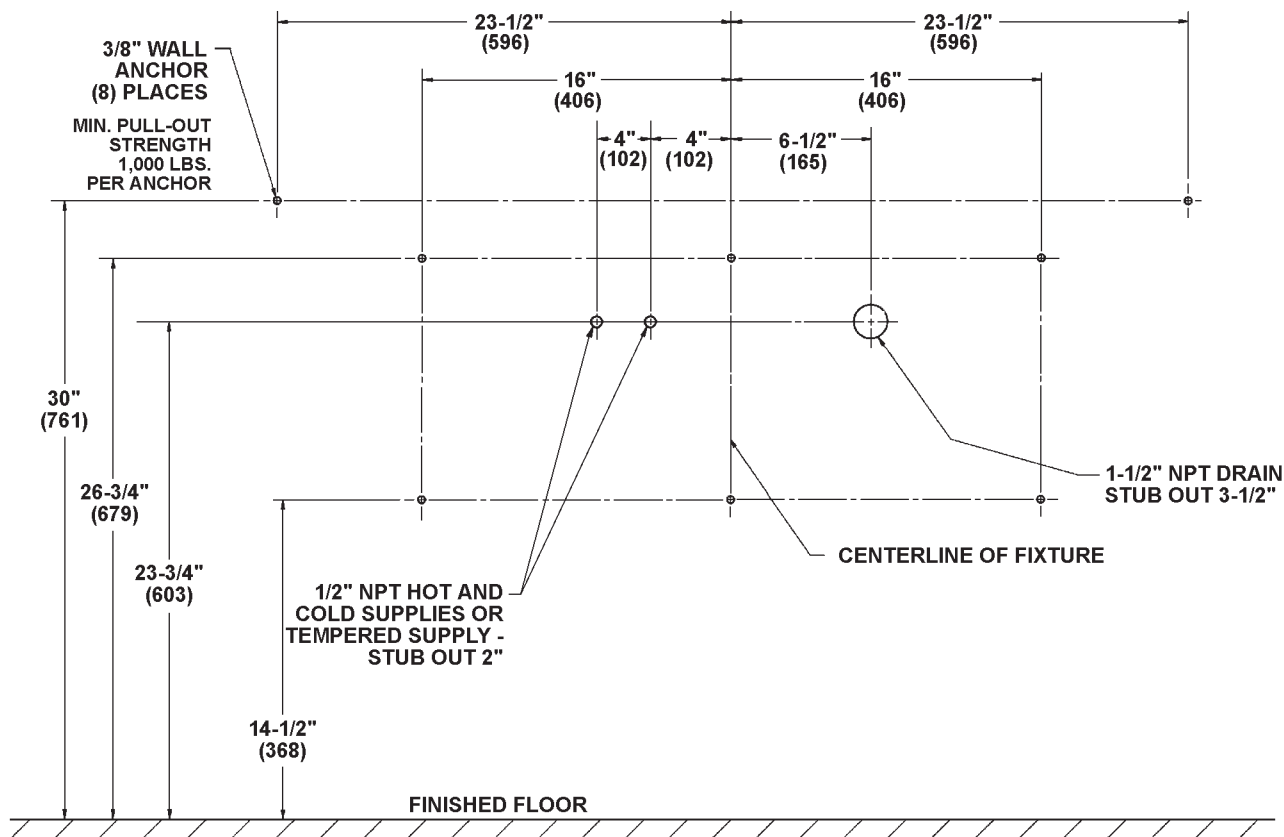

Figure 1b
Note: See Figure 1a below, Figures 1b and 2 on page 6 when roughing in the Express®.
**⚠ IMPORTANT:** Dimensions shown in Figure 1a are for Juvenile Height grades Pre-K thru 5 or 6, and in Figure 1b for Juvenile Height grades 6 thru 8 or 9.